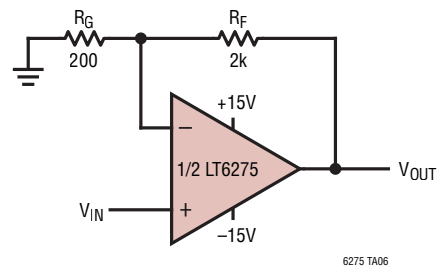
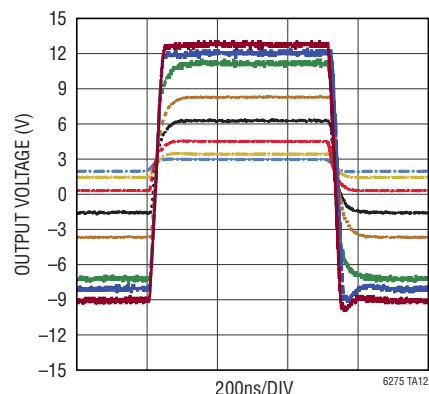

Figure 1. LT6275 Configured in a Noninverting Gain of $A_V = +11V/V$
Figure 5. Composite Amplifier Step Response at Various Output Step Amplitudes ($A_V = -11V/V$)
Figure 1 shows a noninverting amplifier with closed-loop gain of 11V/V. The closed-loop bandwidth of this amplifier is approximately GBW/11 (GBW = Gain-Bandwidth Product). For a step input, the output follows an exponential curve:
Figure 5 shows the output step response of the composite amplifier (measured at the output of the LT6275) at many different amplitudes. At 15V output excursion, the initial slope is measured to be 725V/ μ s. This slope is faster than the 390V/ μ s measured with a 15V output excursion using the simple noninverting amplifier of Figure 1. According to Equation (3), this improvement has been made possible because the effective bandwidth of the composite amplifier is higher (and thus has a lower τ_o), as intended.